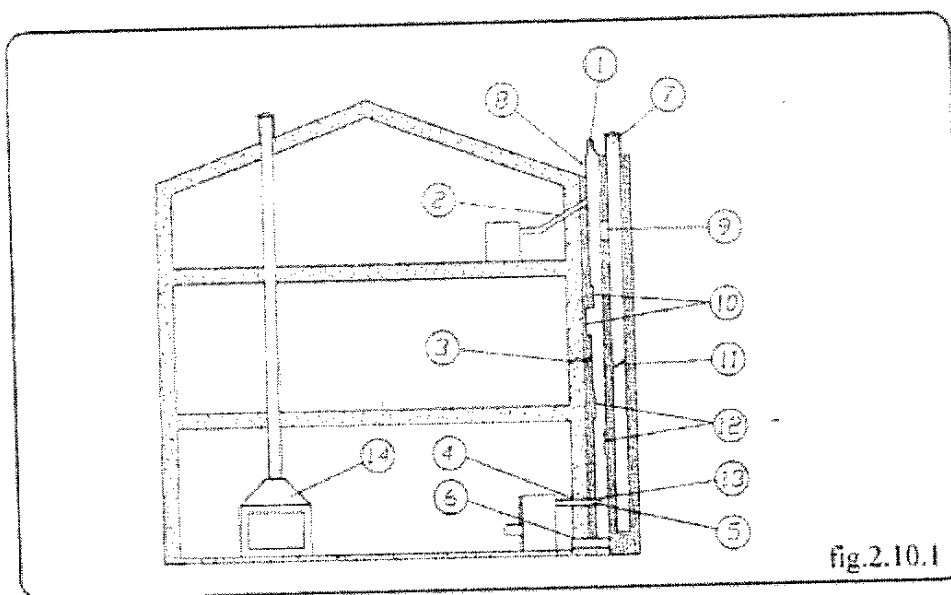

fig.2.10.1
2.10 - Main defects of a flue (fig.2.10.1)